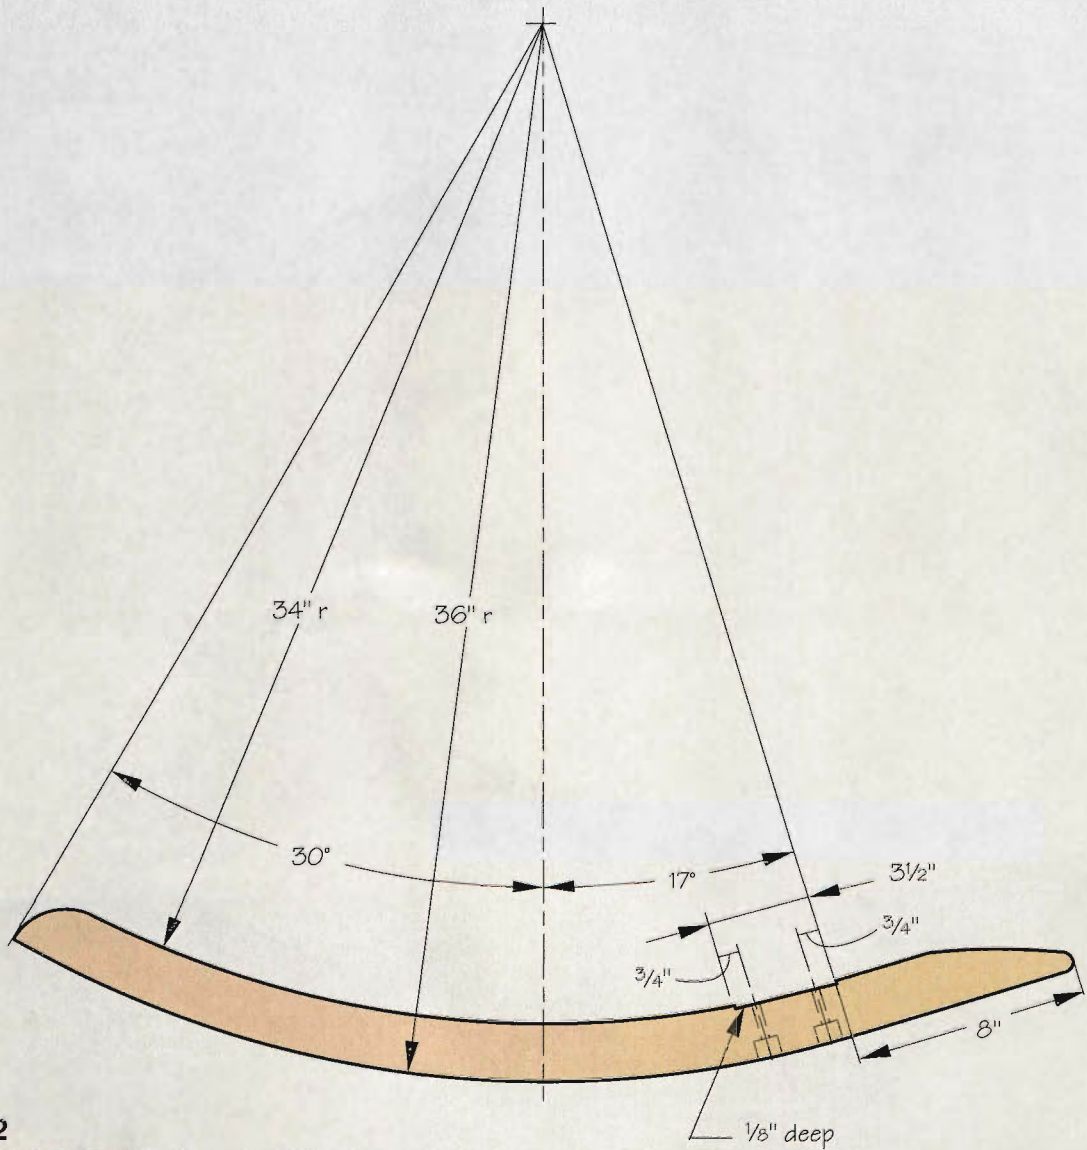

Figure 2
Lay out the two rockers (M) as shown in Figure 2. Note that the rear 8" of each rocker is straight and tangential to the curved portion. This reduces the likelihood of an overly ambitious little rider going over backwards. Shape the front and rear ends of the rockers and cut the dadoes as shown in the Figure. Stack and clamp the rockers together then sand. Drill the two $\frac{1}{4}$ " diameter holes for attaching the cross brace (N) in each rocker as shown in the Figure. Counterbore the bottom of these holes to accommodate retaining washers and hex nuts. Rout all edges with a $\frac{3}{8}$ " round-over bit.